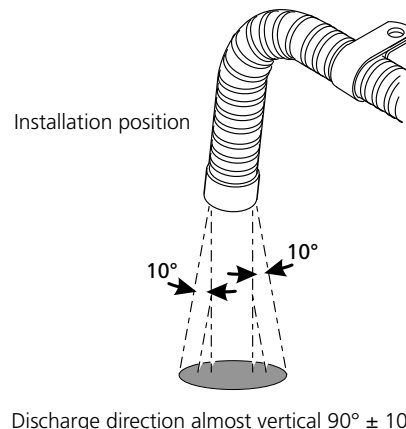

Figure 25. Exhaust pipe opening
**If the exhaust pipe ends other than as shown in Figure 25, it will pose a fire risk.**